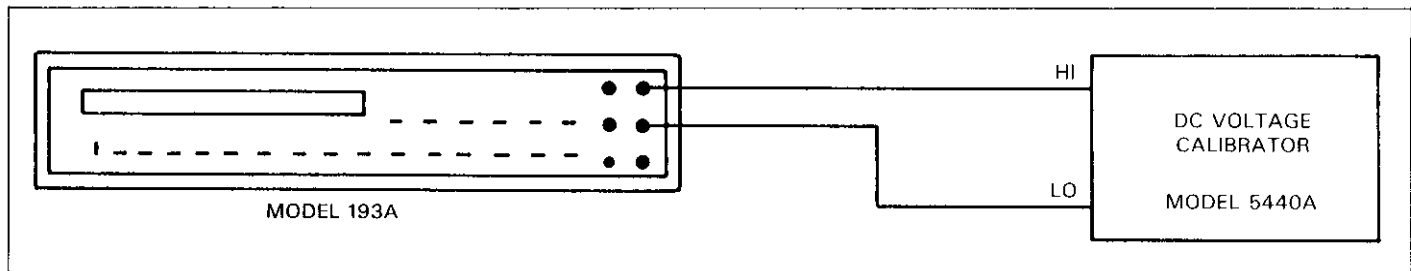

Figure 4-1. Connections for DC Volts Verification
2. Connect the DC voltage calibrator to the Model 193A as shown in Figure 4-1.